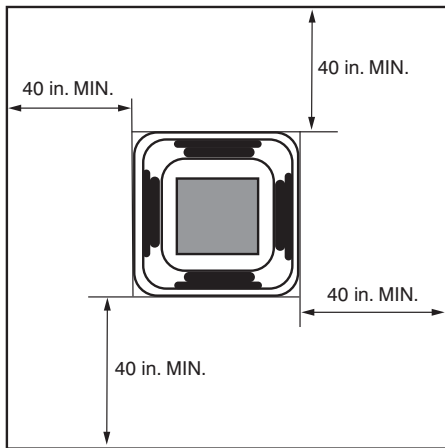

Fig. 6 —Distance from Wall or Obstruction
- A 40-inch clearance is recommended all around the unit for proper airflow. See Fig. 6.